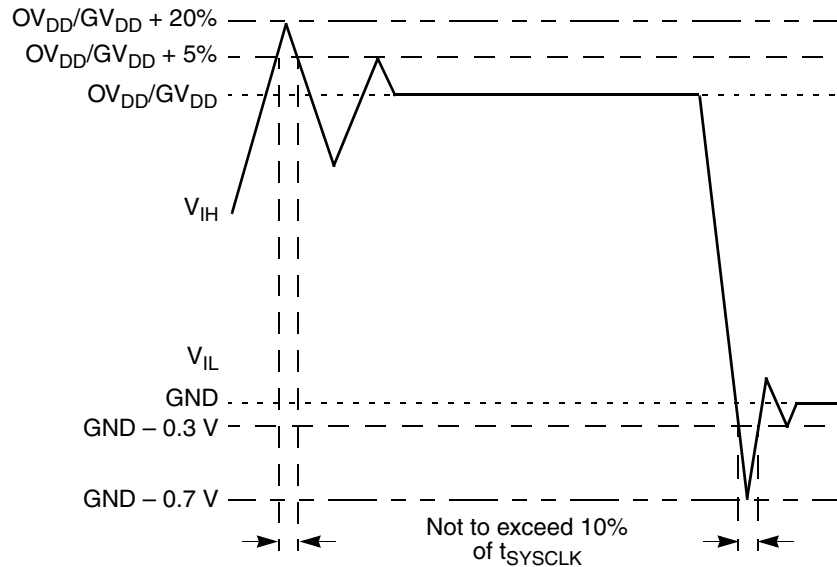

Figure 2. Overshoot/Undershoot Voltage
10.  $V_{in}$  may overshoot/undershoot to a voltage and for a maximum duration as shown in Figure 2.
Figure 2 shows the undershoot and overshoot voltage on the MPC7457.